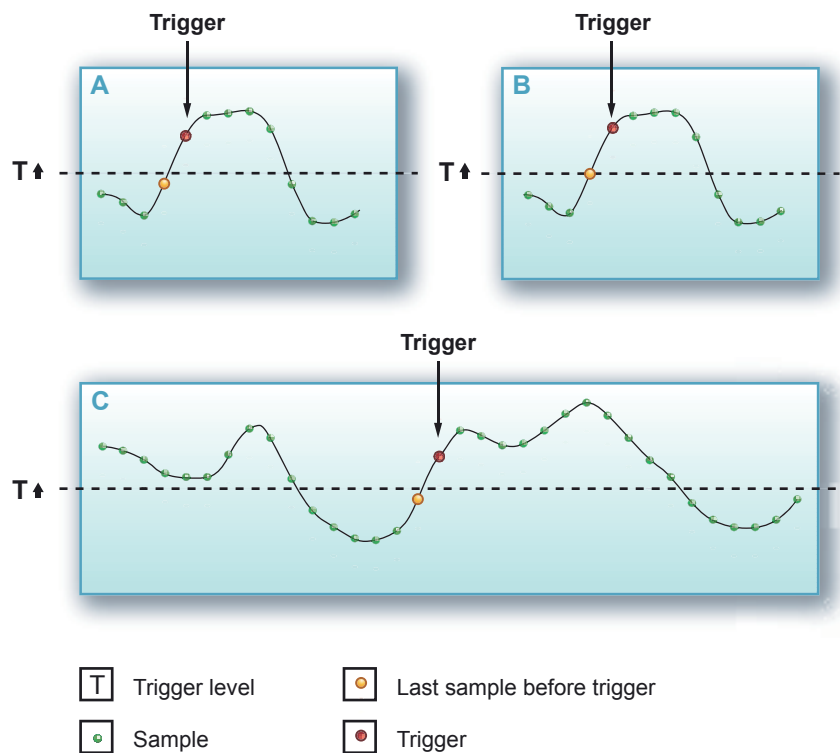

Figure 10.2: Level crossing detector
Figure 10.2 shows the basic trigger mode with a specified level (T) and a level crossing in a positive direction. In Figure 10.2 (A), the trigger occurs on the first sample after the level crossing. In Figure 10.2 (B), the trigger occurs on the first sample after the level crossing, even if the sample equals the level. Figure 10.2 (C) shows the situation in which a sample equals the set level. Trigger does not occur until a sample is actually above the required level.
Since the trigger detector requires a level crossing, no trigger occurs when a signal is above the set level when recording starts. This is depicted in Figure 10.2 (C).